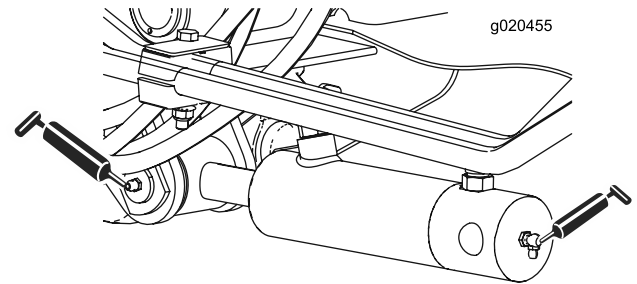

Figure 44
- 2 (each side) lift-arm-cylinder bushings (Figure 44)